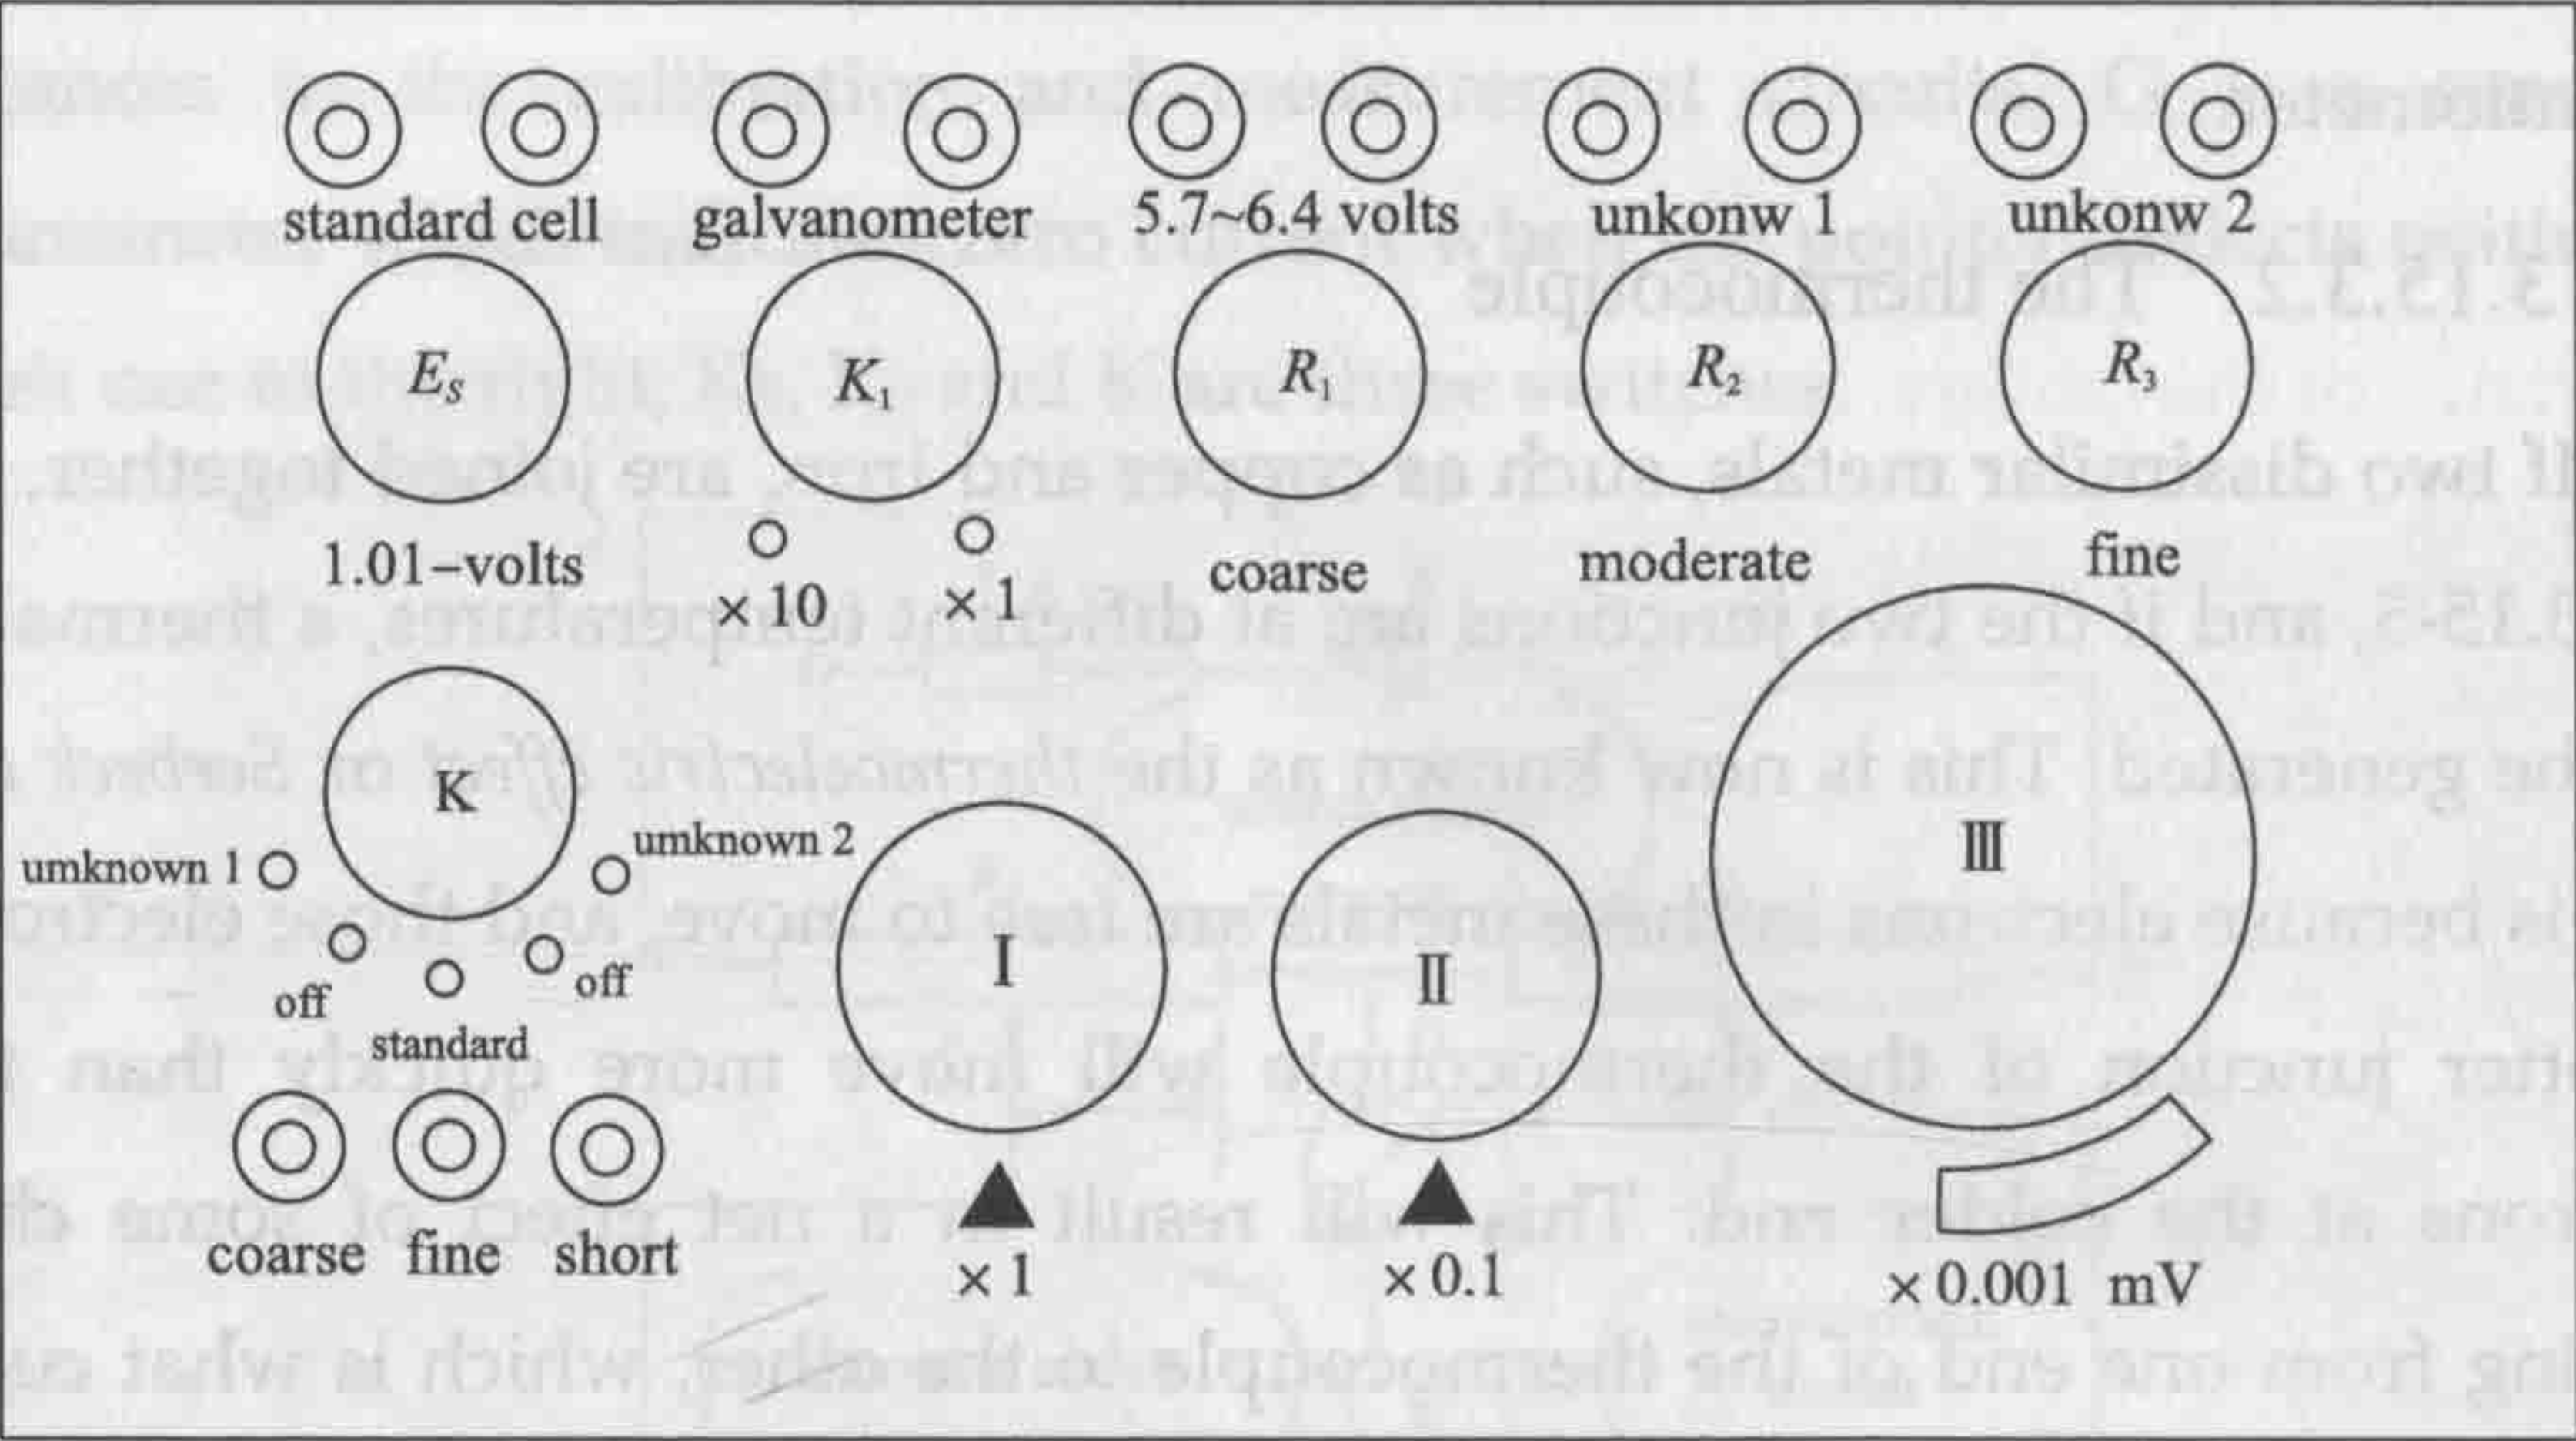

Fig. 3.15-6 Panel of the box potentiometer
Fig. 3.15-6 shows the panel of a box potentiometer. The knobs on the panel are introduced in Table 3.15-1.
(7) Tune E_s to set the value to 1.0185V.
(8) Tune the stable power supply so that the output is in the range of 5.7~6.4 V.
(9) Press in the “short” button to see if the galvanometer reads zero. If not, adjust it mechanically by a screwdriver. There are five sensitivity grades for the galvanometer. The greater the number, the more sensitive the galvanometer is. You can choose the sensitivity as high as possible but the pointer of the galvanometer should not oscillate when current goes through it.
(10) Rotate the switch K to “standard” and set grade “1” for the galvanometer. Push in the “coarse” knob at the lower left corner. If the galvanometer deflects far from zero, adjust R_1 and R_2 (see Fig. 3.15-6) until the galvanometer deflects little from zero. Rotate the “coarse” knob to lock it. Push in the “fine” knob and increase the sensitivity of the galvanometer. Tune R_3 until the galvanometer reads zero. Choose the sensitivity as high as possible so that
(12) Turn the switch K to "unknown 1" or "unknown 2" to measure the unknown emf.
(13) Push in the "coarse" knob. If the galvanometer deflects far from zero, adjust knobs "I" and "II" (see Fig. 3.15-6) until the galvanometer deflects little from zero. Rotate the "coarse" knob to lock it. Push in the "fine" knob. Tune knob "III" until the galvanometer reads zero. Now, read the scales on the knobs "I" "II" and "III" and add them up. The result is the emf produced by the thermocouple at temperature of 35°C.
(14) Repeat Steps (6) through (13) to complete Data Table 3.15-1 for the temperatures given in the table.